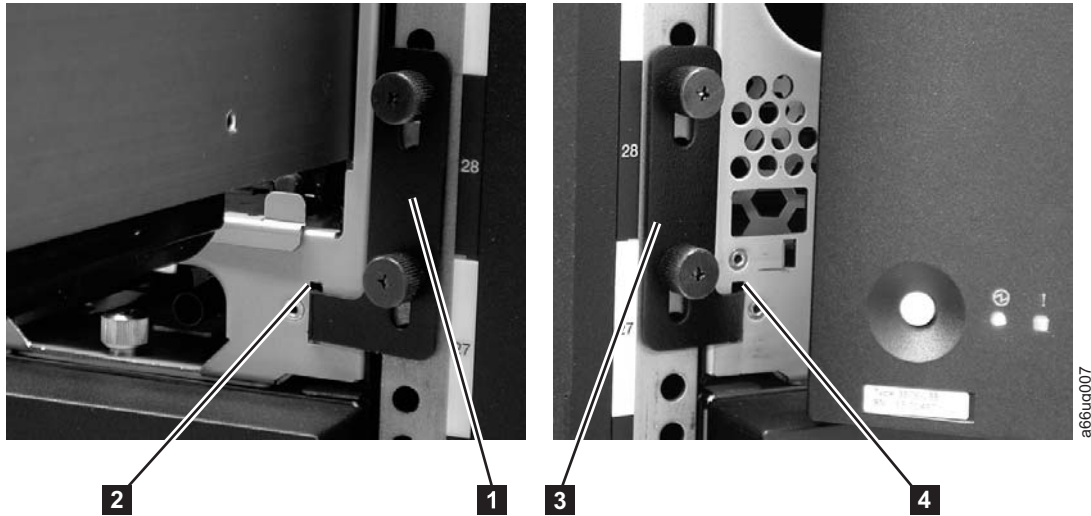

Figure 3-26. Installing the rack ears on a control module
1. Install the right rack ear (**2** in Figure 3-26 on page 3-28).
- a. At the bottom right of the I/O Station position on each library module, there is a slot (**2** in Figure 3-26). Insert the right rack ear (**1** in Figure 3-26 and **7** in Figure 3-12 on page 3-13) into the slot.
2. Install the left rack ear (**3** in Figure 3-26 and **6** in Figure 3-12 on page 3-13).
- b. Grasp the hinged side of the door and, while pulling on the door, push to the right to expose the slot (**4** in Figure 3-26) for the left rack ear .
- c. Insert the left rack ear (**3** in Figure 3-26) into the slot.